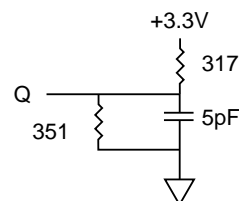

Figure 2
6. Output loading is specified with $C_L = 5pF$ as in Figure 2. Transition is measured $\pm 500mV$ from steady state voltage.
11. The load used for V_{OH}, V_{OL} testing is shown in Figure 2. AC load current is higher than the stated DC values. AC I/O curves are available upon request.